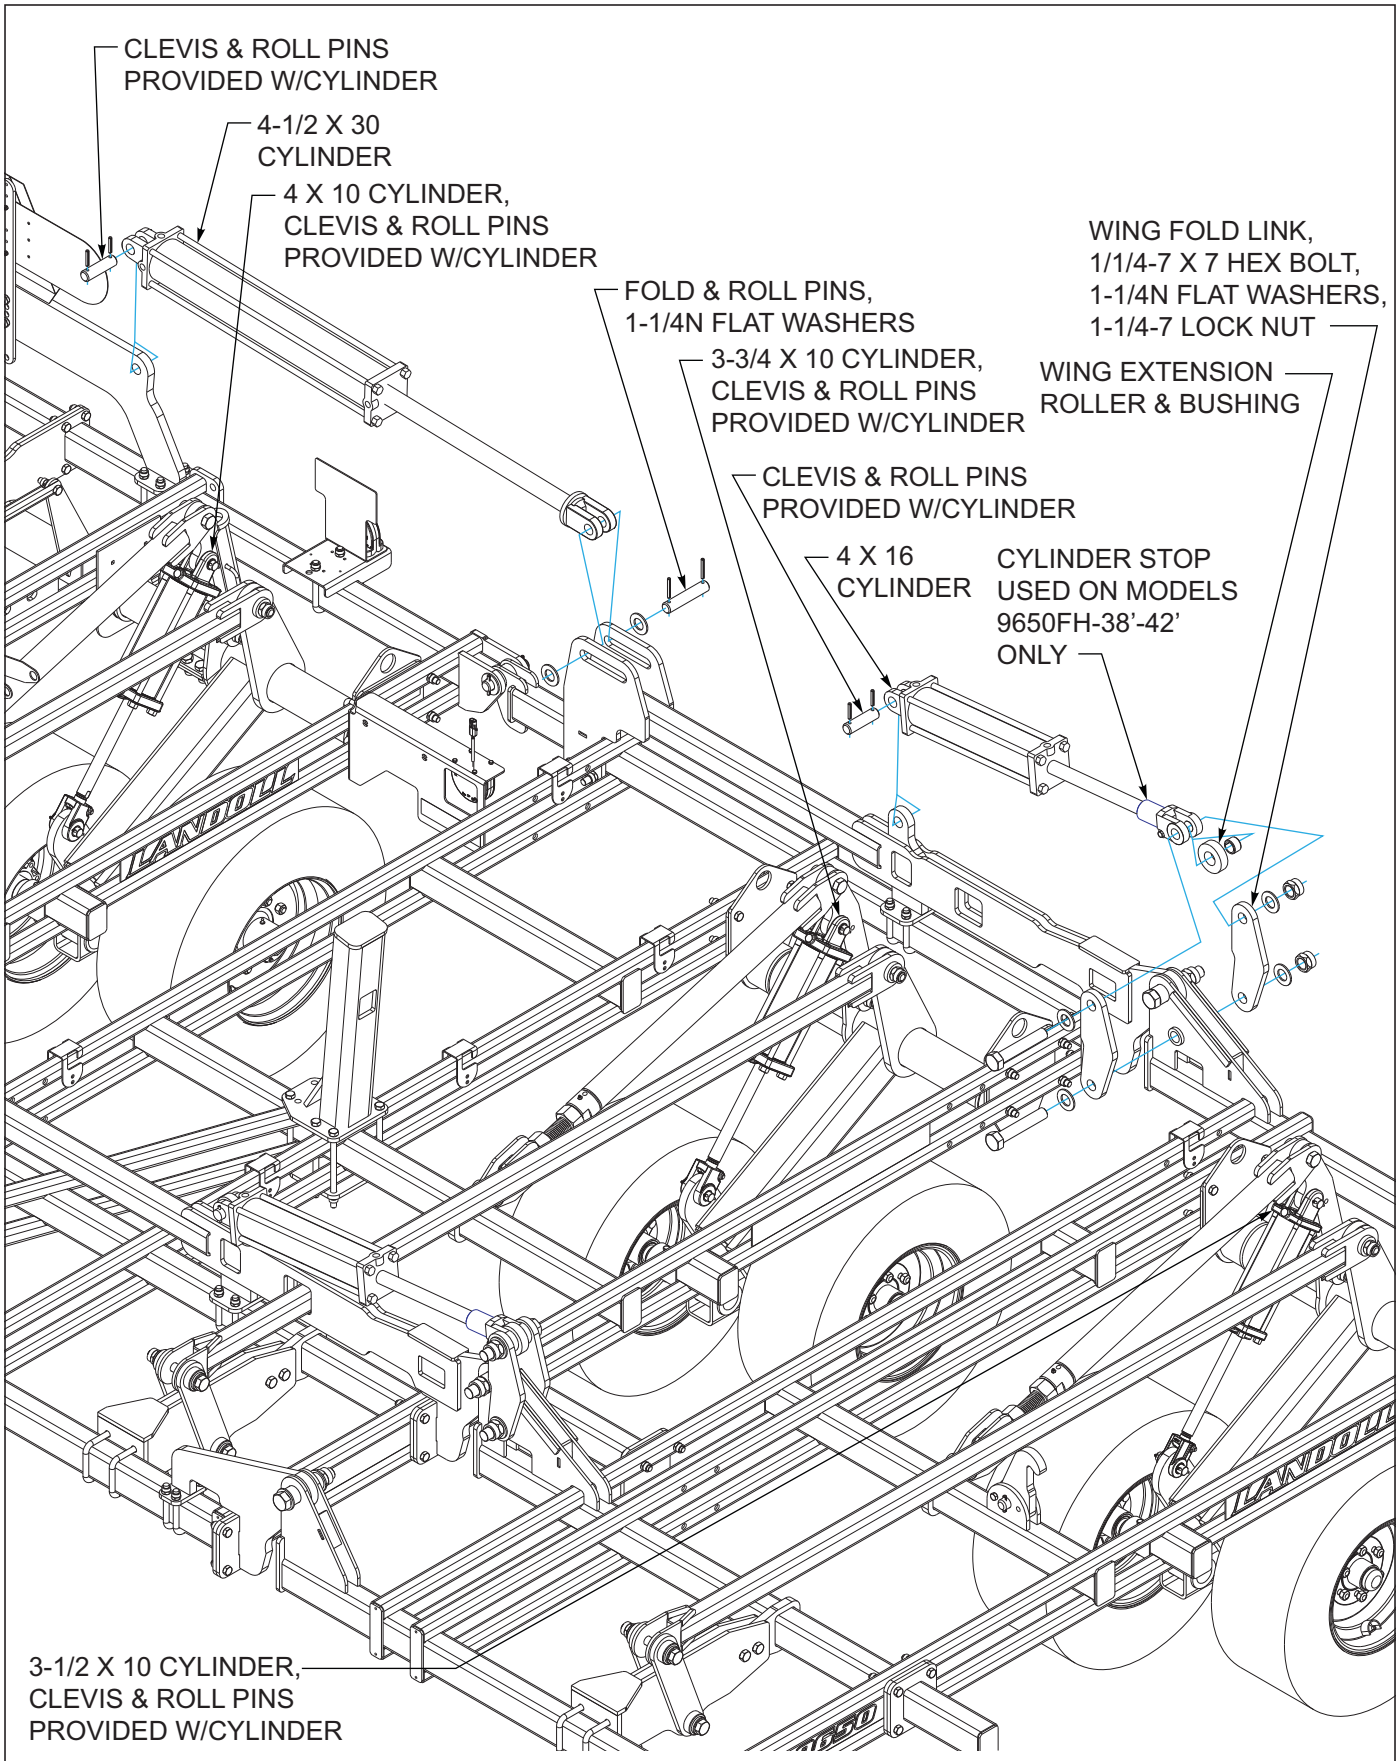

Figure 3-10: Fold Cylinder Installation
Refer to Figure 3-10 for hydraulic cylinder installation models 38' 9650FH 38'/42'.
2. Using 1-1/4 x 6-1/8 fold pin, 1-1/4N flat washers, and 5/16 x 2-1/2 spring slotted pins, attach the rod end of the 4-1/2 x 30 cylinders to the slotted mounts on the inner wing frames See Figure 3-10
3. Using a 1-1/4-7 x 7 hex head cap screw, flat washers, wing extension roller, and hex lock nut, attach the rod end of the 4 x 16 hydraulic cylinders to the fold links on the double hinge See Figure 3-10 Do not over-tighten screws. Fold links should pivot freely without binding or dragging. Tighten screws to remove excess slack, but still allow fold links to flex, and rotate bolt by hand.